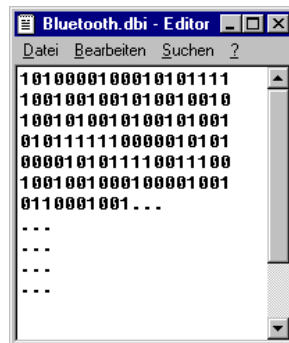

Fig. 7-5 If “File” is selected from the “All Data” list, the content of the file must only contain information of ASCII 0 and 1 representation.
Note: For a bit pattern that forms the packet a file in the file section needs to be opened. The file must contain information of ASCII 0 and 1 representation as shown in the editor window in Fig. 7-5. Header information that may be generated as a part of the bit sequence by specific application software such as WinIQSIM™ needs to be erased prior of loading the file into the SMIQ-K5.
- a user defined file. The file must contain information of ASCII 0 and 1 as shown in Fig. 7-5. The file is read out cyclically as all the other data sources. The file extension is specified as **dbi**.